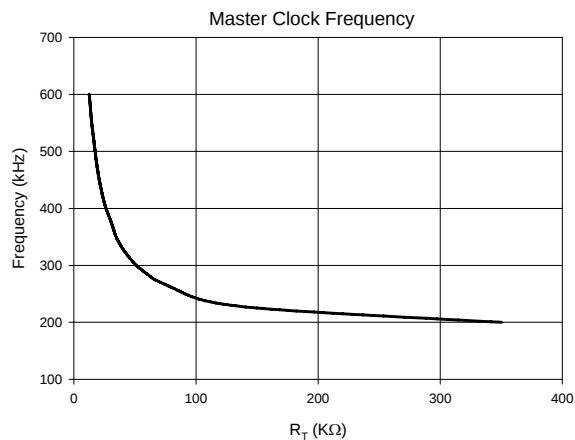

Figure 18. R_T vs. Frequency
The clock frequency on the oscillator is set using an external resistor, connected between R(T) pin and ground. The frequency follows the graph as shown in Figure 18. The minimum clock frequency is 200KHz which is when R(T) pin is left open. Select the value of R(T) as shown in the equation below. This equation is valid for all $F_{OSC} > 200\text{kHz}$.